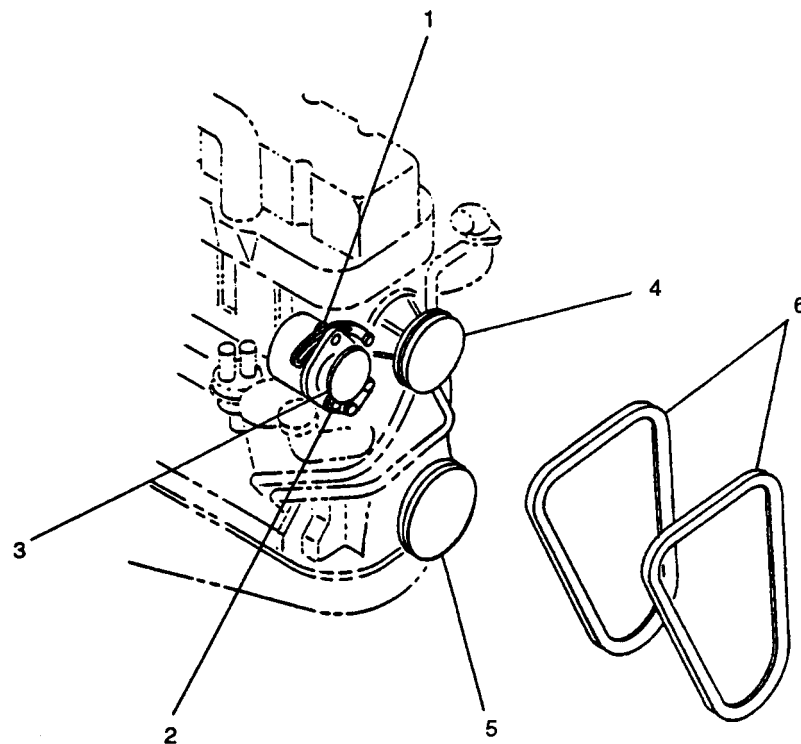

FIGURE 2-24. Fan Belts
- d. Inspect fan belts (6, FIGURE 2-24) for frays, cracks, oil soaking, and other damage.
- d. Check fan belts (6, FIGURE 2-24) for 1/2 inch (1.27 cm) deflection midway between alternator pulley (3) and crankshaft pulley (5).
- e. If fan belts need adjustment, loosen alternator mounting bolt (1) and nut (2).
- d. Loosen alternator mounting bolt (1, FIGURE 2-24) and nut (2).
- e. Pivot alternator to relieve tension on fan belts (6), and remove belts from alternator (3), fan pulley (4), and crankshaft pulley (5).
- a. Slip fan belts (6, FIGURE 2-24) over fan (43, FIGURE 2-23).
- b. Install belts (6, FIGURE 2-24) onto alternator pulley (3), fan pulley (4), and crankshaft pulley (5).
- c. Adjust tension on fan belts (6), paragraph 2-83.2.